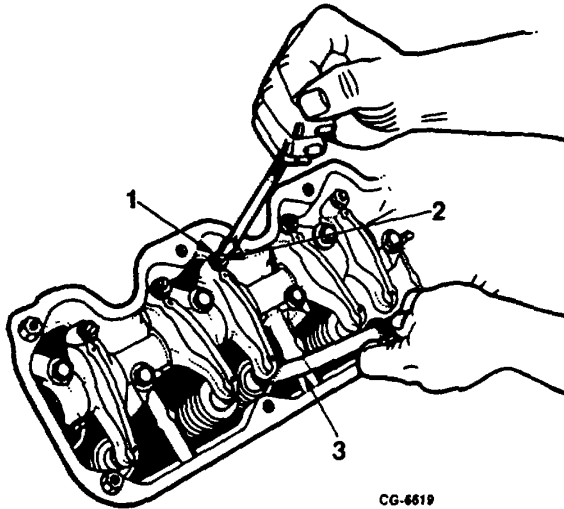

Figure 49. Valve Adjustment
5. Adjust rocker arm to valve tip (tappet) clearance as follows: Figure 49